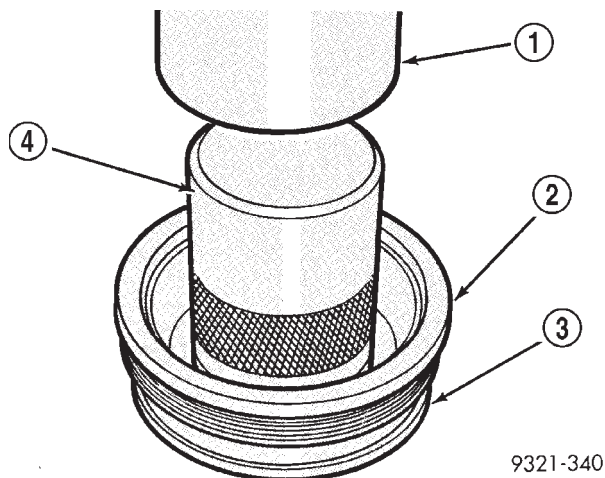

Fig. 403 Axle Shaft Seal Installation
(22) Install new stub shaft seals in both adjusters using special tool 6558 (Fig. 403).